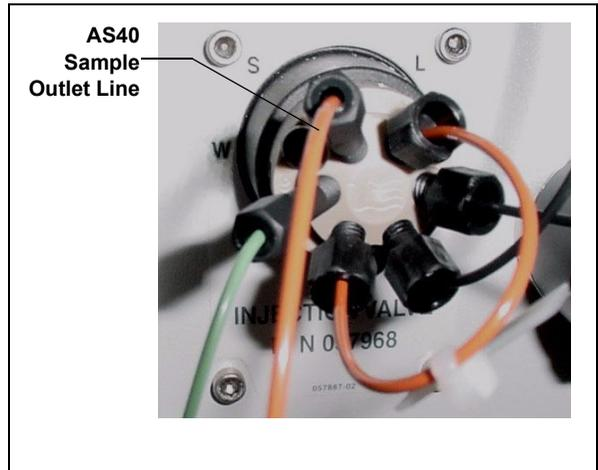

Figure B-63. ICS-2000 Injection Valve
3. Connect the outlet line from the AS40 to port **S (5)** of the injection valve (see Figure B-63).